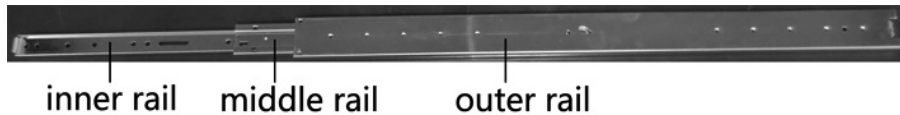

Figure 6
- Inner rail, middle rail and outer rail have been installed together as is shown in Figure 6.